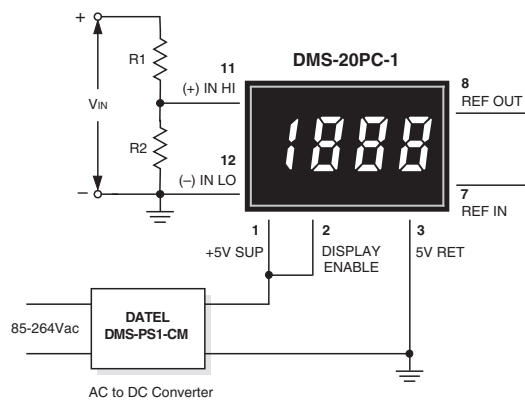

**Figure 3.** Differential Input Configuration
**2. Differential Input Configurations:** Differential measurements can be made with all DMS-20PC meters. Figure 3, though not a practical real-world application, uses a voltage divider to demonstrate the concept of a differential input signal. Be careful not to exceed the ±2V common mode voltage limitation for 5V-powered meters.